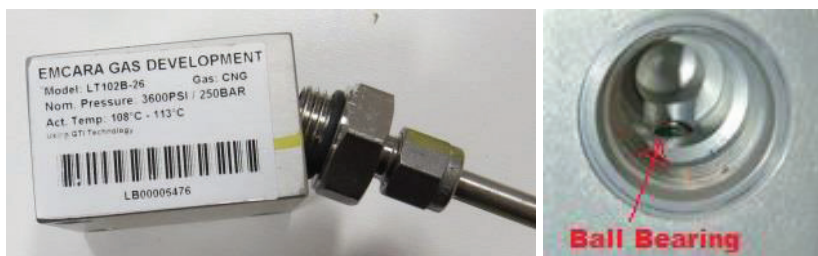

Figure 14: Ball bearing in the PRD.
6. Make sure the ball bearing is in place and hold the PRD with the “label up” to trap the ball bearing in its bore (Figure 14).
2. Attach the new PRD block to the rail using the retained (3) bolts and nuts (Figure 14).